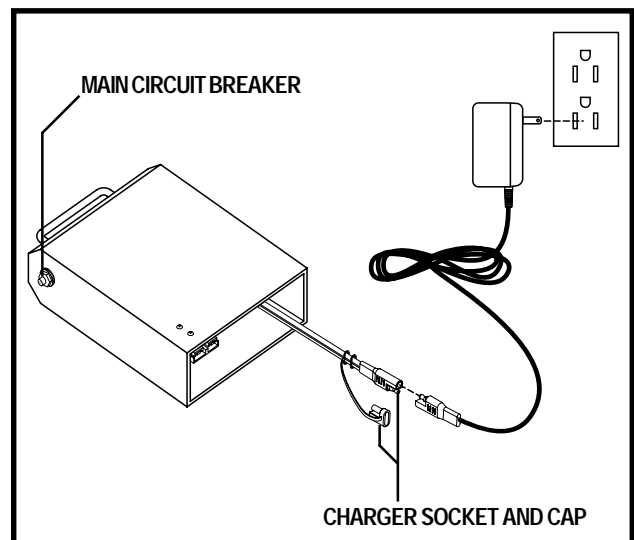

Figure 9. Battery Charging
2. Remove the cap from the charger socket located on the bottom of the battery, plug the charger cord into the charger socket, then connect the charger cord to a standard electrical outlet. See figure 9.